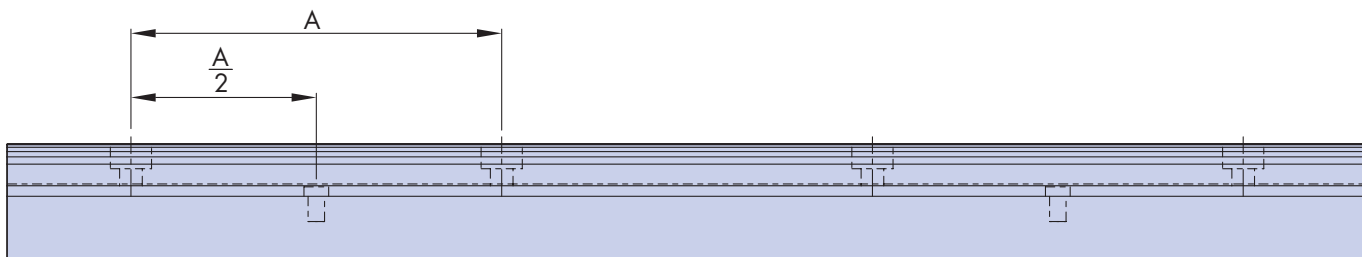

Figure 1.3 Position of dowel pin holes
1.2 If using the dowel pin method, the dowels should be positioned between every other slide fixing hole as shown in figure 1.3. If using a shorter length of slide a minimum of two dowel pins is recommended.